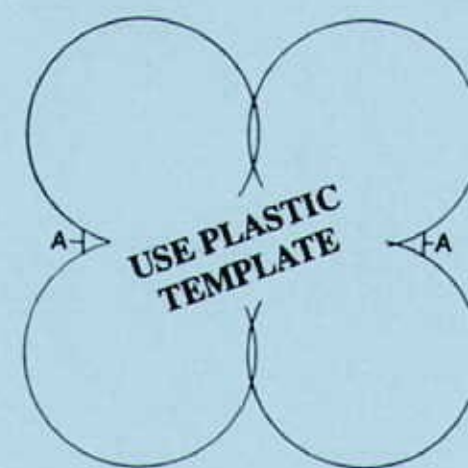

FIGURE 1
2. Using the enclosed drill guide templates, drill four 3/16" holes and follow with 1-1/8" diameter hole saw. (Figure 1) These holes must be 1-1/16" on center in both directions. Evenly file the points marked "A" until the switch goes comfortably between them. The distance between these points should never exceed 1-3/4". We strongly suggest that this first be tried on a practice piece of wood.